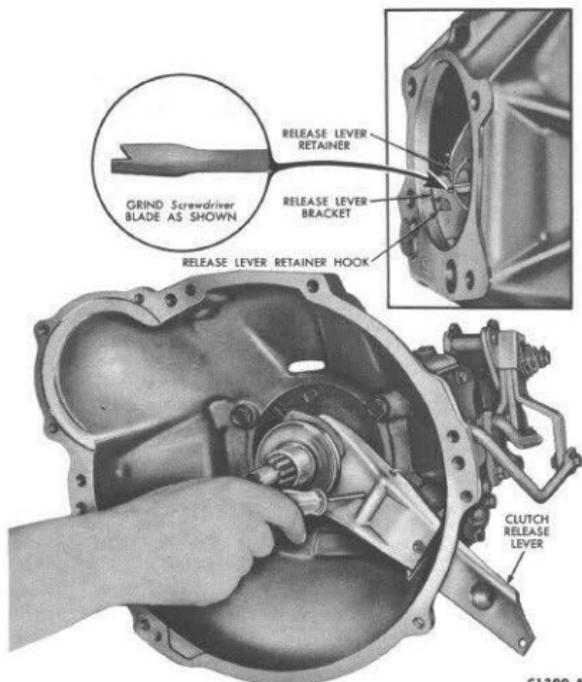

FIG. 52—Removing or Installing Clutch Release Lever Retainer
3. Insert a reworked screw driver (Fig. 52) through the clutch release lever and unhook the retainer that secures the clutch release lever to the retainer bracket.